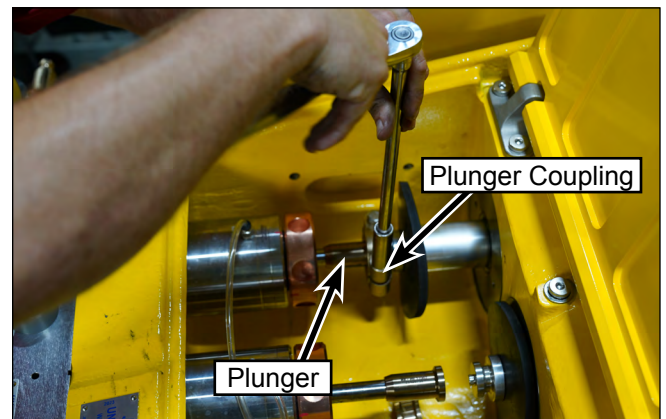

Figure 51: Plunger Coupling Removal.
6. Remove the two bolts that secure the plunger coupling (Figure 51) to the plunger and remove the coupling. Push the plunger into the stuffing box for clearance.